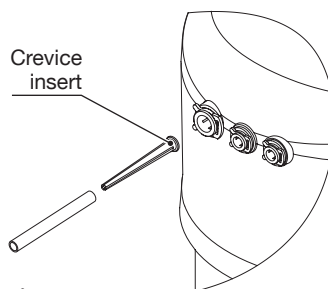

Figure 6
Installing the crevice insert** (fig. 6)
- Insert the crevice insert into the 3/8" (9.5 mm) tube as shown in fig. 6 and connect this end of the tube to the water cleaner.
- Remove the slotted plug from the tube (fig. 6).